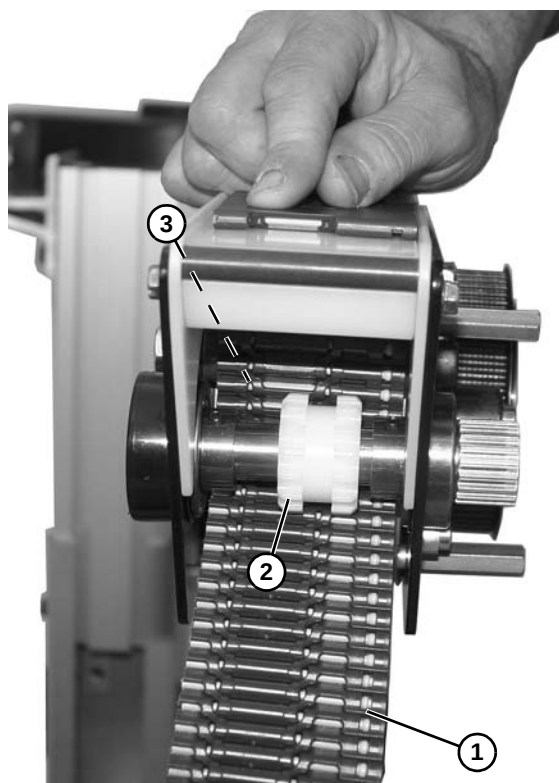

Figure 119
5. Guide belt (**Figure 119, item 1**) through idler assembly with belt routing under gear (**Figure 119, item 2**) and over wear tube (**Figure 119, item 3**).